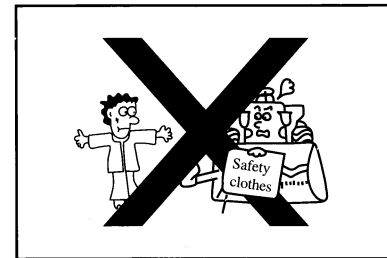

Figure1-23
- Don't wear greasy clothing which can incur burning. (Figure 1-23)